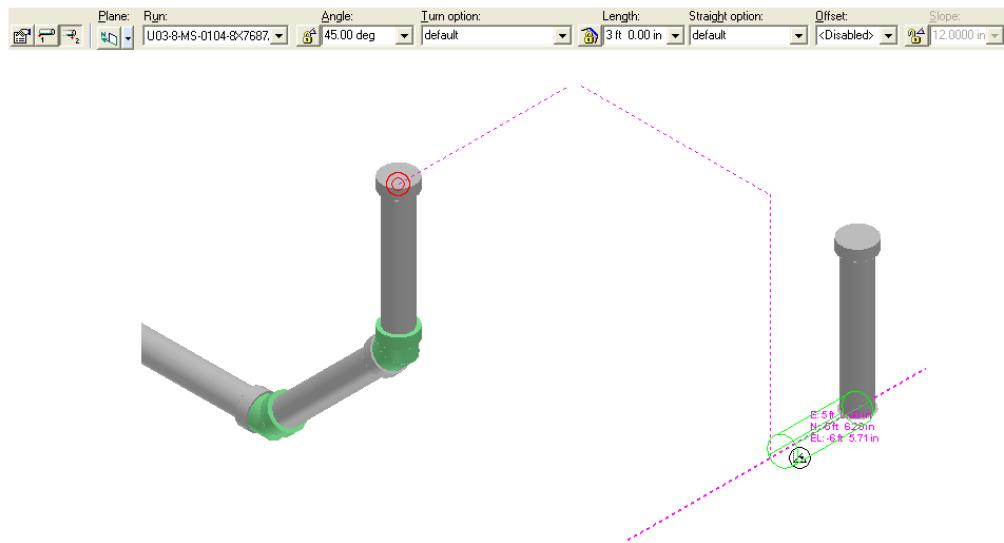

Figure 41: Routing the Pipe in the North-South Direction
74. Route a pipe, as shown in Figure 41, by using the following specifications on the **Route Pipe** ribbon: